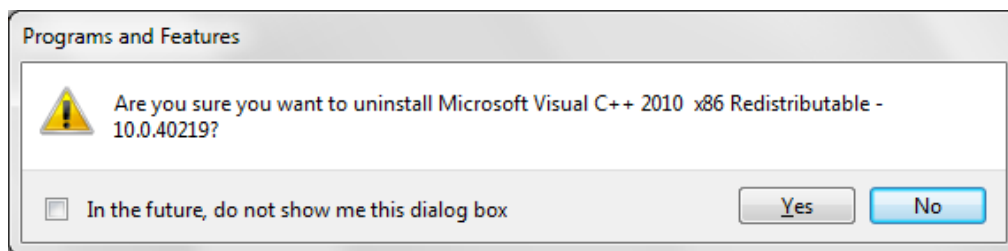

Figure III.1.7: Confirm uninstallation of Microsoft Visual C++ 2010 x86 Redistributables - 10.0.40219.
- Answer "Yes" to the asked question. See Figure III.1.7.